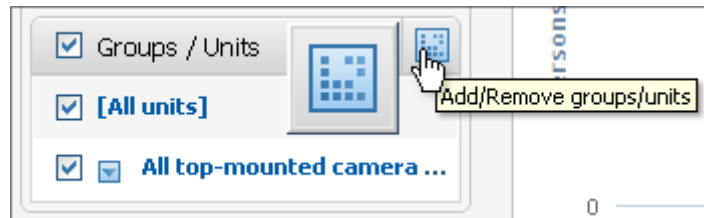

Figure 97: sample: "Groups/units" button.
1. Add/remove a group for metrics calculation directly from the sidebar (Figure 97).